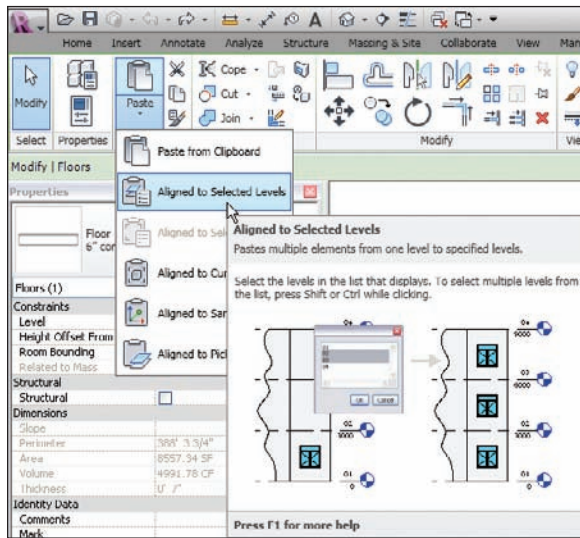

FIGURE 6.30 Using Paste Aligned To Selected Levels
3. Go to the default 3D view, as shown in Figure 6.30.
4. From the Paste fly-out on the Clipboard panel, click Paste > Aligned To Selected Levels as shown in Figure 6.30.